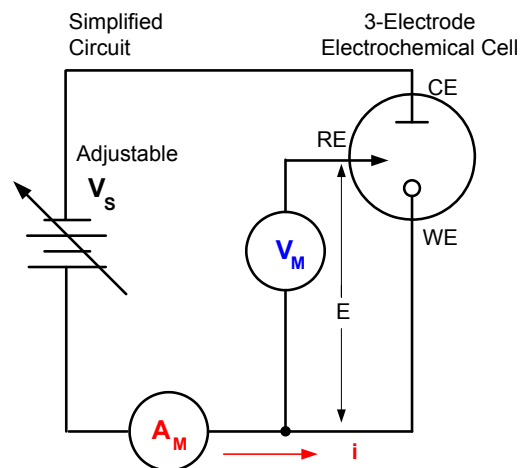

Figure 3. Simplified measurement circuit for performing cyclic voltammetry
Figure 3 illustrates a typical electrochemical measurement circuit made up of an electrochemical cell, an adjustable voltage source (V_s), an ammeter (A_M), and a voltmeter (V_M). The three electrodes of the electrochemical cell are the working electrode (WE), reference electrode (RE), and the counter (or auxiliary) electrode (CE). The voltage source (V_s) for the potential scan is applied between the working electrode and the counter electrode. The potential (E) between the reference electrode and the working electrode is measured with the voltmeter, and the overall voltage (V_s) is adjusted to maintain the desired potential at the working electrode with respect to the reference electrode. The resulting current (i) flowing to or from the working electrode is measured with the ammeter (A_M). This process is usually repeated for a range of E .